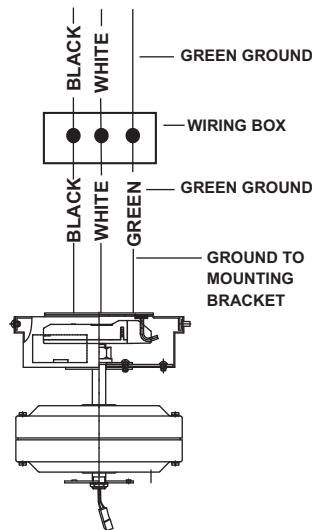

Figure 7
**Step 1.** (Fig. 7) Receiver to House Supply Wires Electrical Connections: Connect the black (hot) wire from the ceiling to the black wire marked "AC in L" from the receiver. Connect the white (neutral) wire from the ceiling to the white wire marked "AC in N" from the Receiver. Secure the wire connections with the plastic wire nuts provided.
**Step 2.** (Fig. 7) If your outlet box has a ground wire (green or bare copper) connect it to the fan ground wires; otherwise connect the hanging bracket ground wire to the mounting bracket. Secure the wire connection with a plastic nut provided. After connecting the wires spread them apart so that the green and white wires are on one side of the outlet box and black wires are on the other side. Carefully tuck the wire connections up into the outlet box.